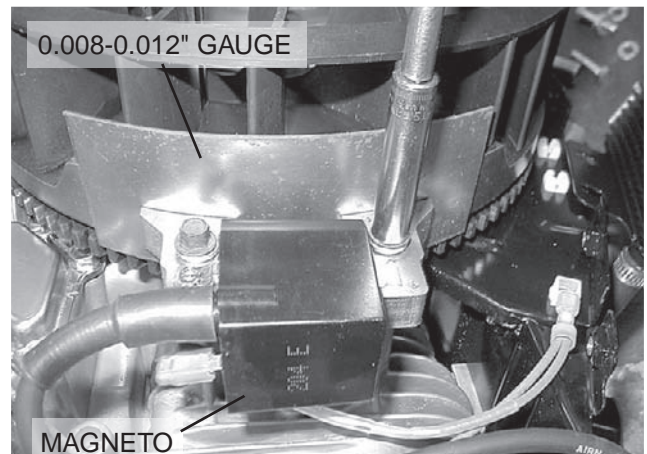

Figure 142. Setting Ignition Magneto (Armature) Air Gap
1. See Figure 142. Rotate the flywheel (by hand) until the magnet is under the module (armature) laminations.